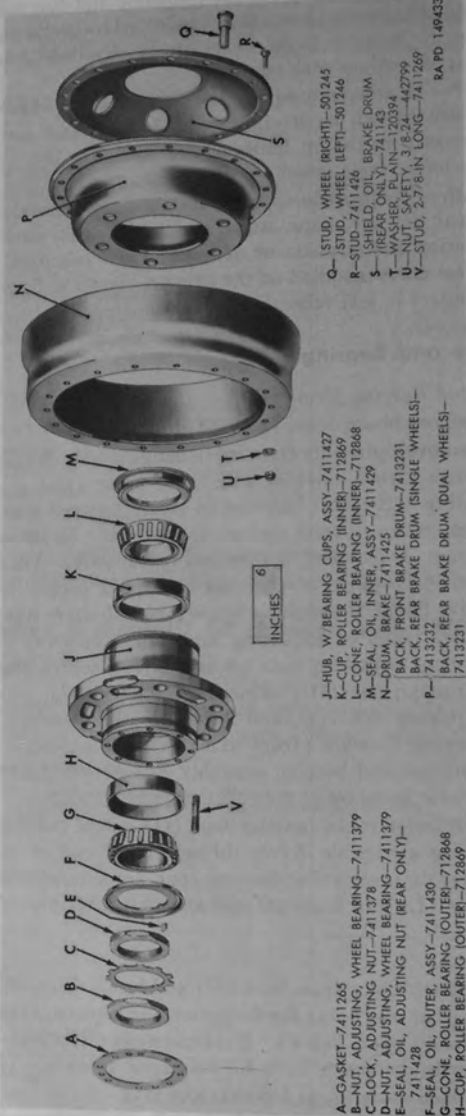
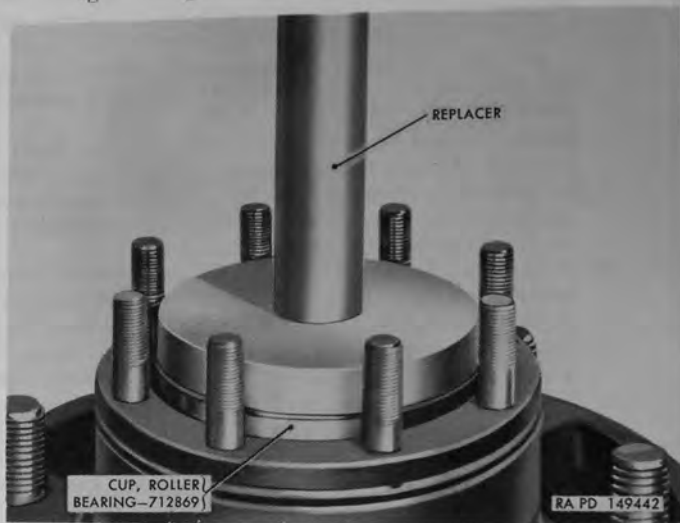

Figure 182. Hub, bearing, drum back, and stud components.
Figure 183. Installing bearing cups in hub with replacer 41-R-2392-635.
a. General.—The procedures which follow cover removal, inspection, and repair of the hub, cups, studs, and brake drum back assembly, and installation and adjustment of the hub and bearings. Sectional views of these parts installed on the axle are shown in figures 179 and 180. Key letters in text refer to figure 182.
- (2) *Brake drum back or wheel stud replacement.*—To remove brake drum back (P) or right and left wheel studs (Q), press wheel studs out of hub flange and brake drum back. Position drum back on hub flange, referring to figure 182 for identification of drum back to be used for front, single rear, or dual rear wheels and for wheel studs to be used on right and left sides. At rear only, brake drum oil shield (S) and studs (R) must be removed from drum back ((1) above) before wheel studs can be installed. Insert studs through brake drum back and hub flange as far as possible by hand; then support hub flange and press studs in until heads of studs bottom against brake drum back. At rear only, install brake drum oil shield (S) and studs (R) ((1) above).
- (3) *Drive flange stud replacement.*—Damaged studs (V) can be removed from end of hub with a stud remover and replacer. If all studs are removed, or when installing studs in a new hub and cup assembly, determine end of hub in which studs are to be installed (par. 253*b*). Make sure threads in tapped holes are not damaged and that holes are not partially filled with grease or dirt which would prevent driving studs to proper height. Tighten studs into hub, using a stud remover and replacer, to a torque of 50 to 60 pound-feet; then check stud height. Studs should extend from end of hub $1\frac{5}{16}$ to $1\frac{7}{16}$ inches after being tightened to above torque.
- (4) *Bearing cup replacement.*—Using a brass drift through opposite end of hub, drive out each bearing cup. Four knock-out notches are provided in each bearing flange on inside of hub. Alternately drive on opposite sides of bearing cup to prevent cocking bearing cup and damaging machined bore in hub. Install new bearing cups in hub, driving them into place with replacer 41-R-2392-635 as shown in figure 183. Make sure cups are driven in squarely and are fully seated against flanges on inside of hub.